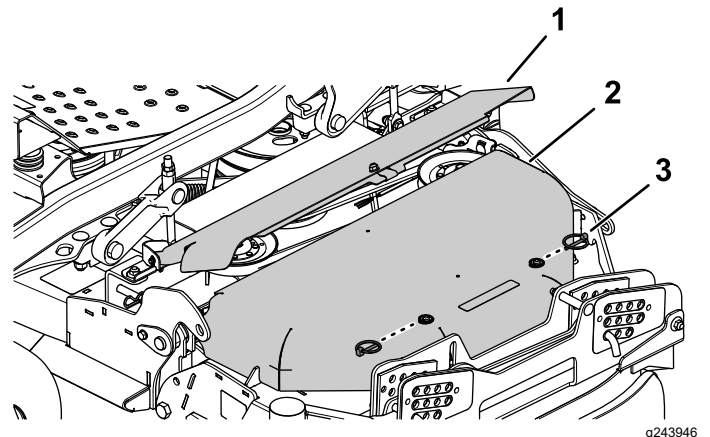

Figure 58
- Remove the 2 lynch pins from the outer belt cover and remove the outer cover (Figure 58).
- Rotate the inside belt cover upward (Figure 58).